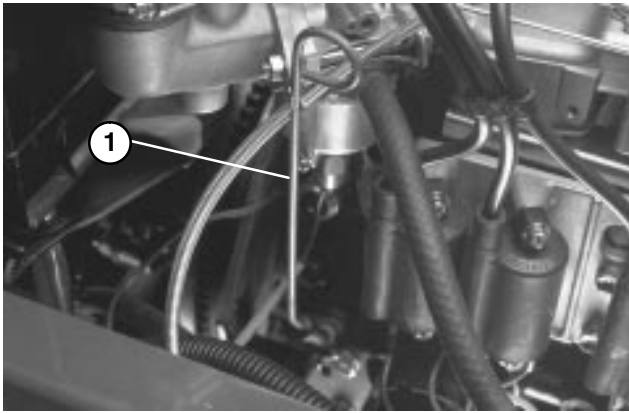
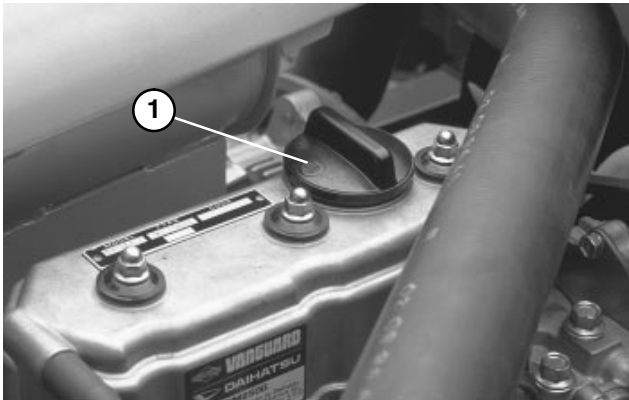

Figure 10
Figure 11
3. Remove dipstick and wipe it with a clean rag. Insert dipstick into the tube and make sure it is seated fully. Remove dipstick and check level of oil (Fig. 10). If oil level is low, remove oil fill cap (Fig. 11) and add enough oil to raise level to FULL mark on dipstick. Do not overfill.